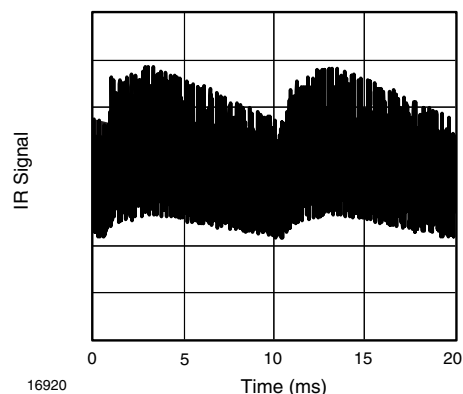

Fig. 14 - IR Disturbance from Fluorescent Lamp with Low Modulation
- Strongly or weakly modulated pattern from fluorescent lamps with electronic ballasts (see Fig. 14 or Fig. 15)
| Suppression of interference from fluorescent lamps | Mild and complex disturbance patterns are suppressed (example: signal pattern of Fig. 14 and Fig. 15) | Critical disturbance patterns are suppressed, e.g. highly dimmed LCDs |